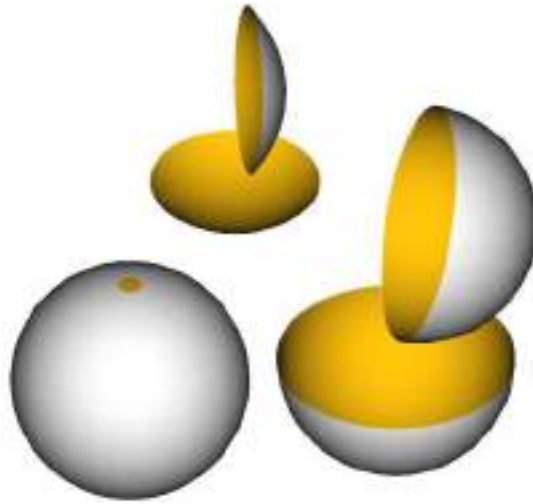

Figure 43: Spheres drilled with a small hole or spherical skullcaps are strictly identical from the topological point of view
- Click the two free edges as shown on the Figure 43. The default bridge you obtain does not have the appropriate shape (too sharp and the medium orientation is not vertical).
- Click the two free edges as shown on the Figure 43. The default bridge you obtain looks too much like a circle.